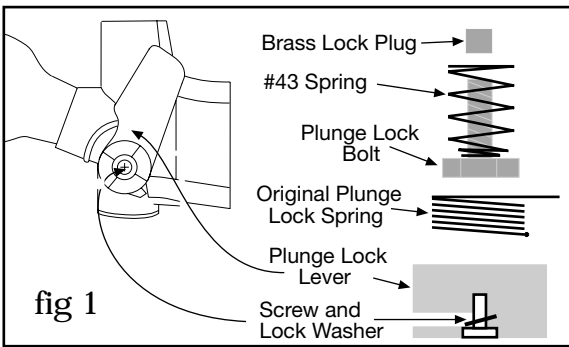

fig 1
- Using (figs 1&2) Remove plunge lock screw and lock washer. Remove lock lever and store the original plunge lock spring. Using a *counterclockwise* rotation, remove the plunge lock bolt and brass lock plug. Place the # 38 blue spring, small wound end first onto the lock bolt. Place small amount of included red grease onto brass lock plug replace into hole. Using a *clockwise* rotation thread plunge lock bolt with spring into motor housing until tight. Replace lever pointing up, Replace lock washer and screw. *Check operation of plunge lock, spring should hold handle open.*
On some routers the #1 mainshaft head may not be flush with the bottom of the router base. Shown fig 1.